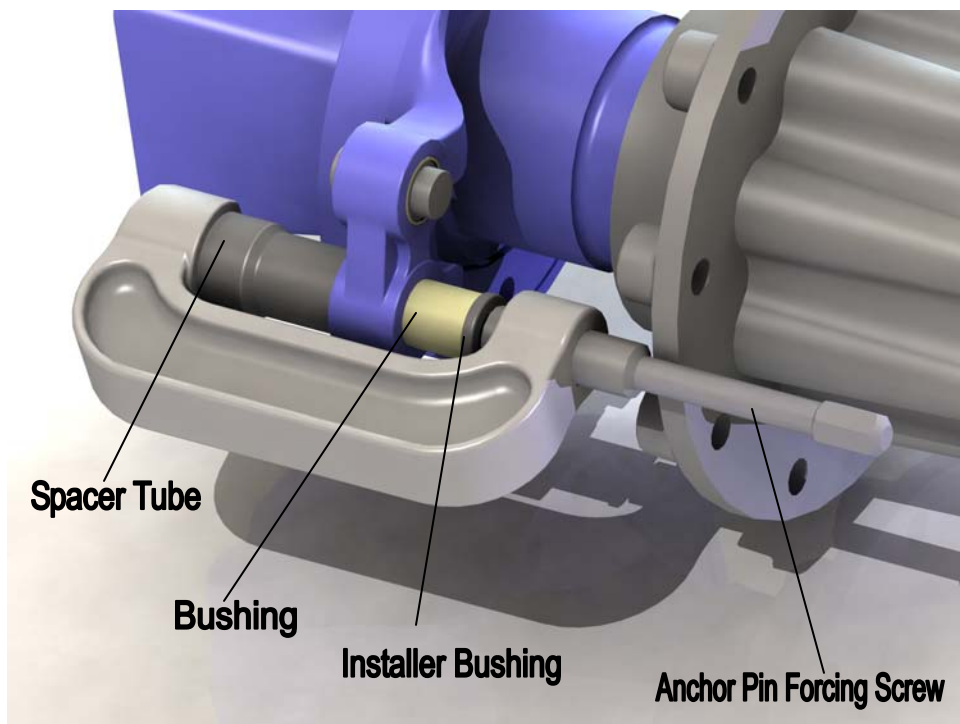

Figure 4
4. Place the assembly over the spider with the bushing aligned with the hole (see Figure 4).